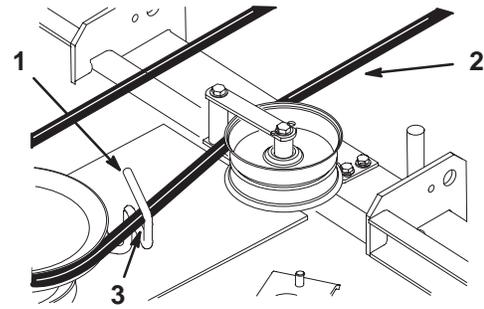

Figure 68
- Rotate the belt guide, on rear of the mower, so it is 1/8-1/4 inch (3-7 mm) away from the vertical side of the PTO belt (Fig. 68).